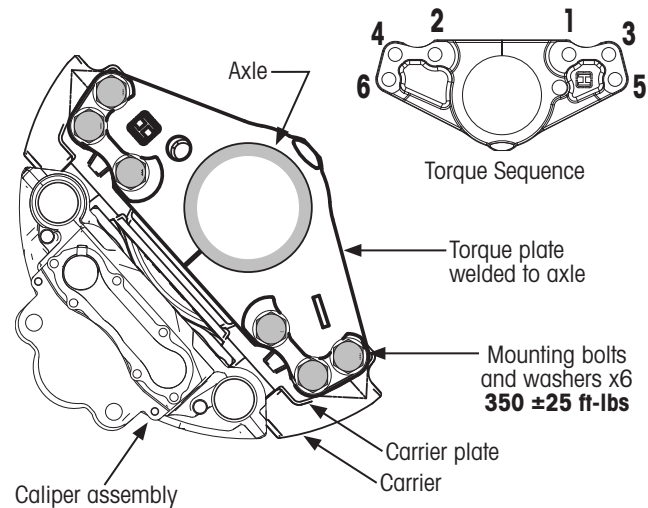
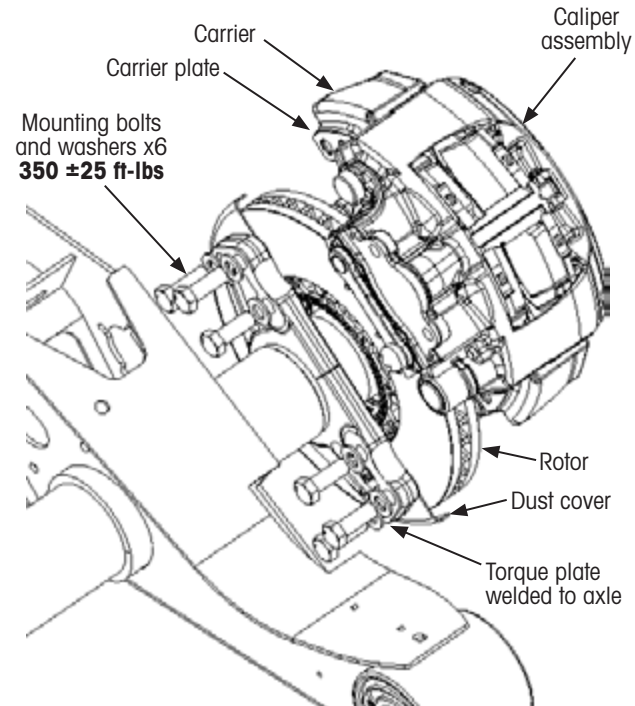

Figure 2: Torque Plate/caliper assembly
Figure 3: Installing ADB caliper (suspension shown upside down)
2. **Align and place caliper** over rotor and against torque plate as shown in Figure 2 and Figure 3.
5. Using 30 mm socket, **torque mounting bolts** in sequence shown in Figure 2.
IMPORTANT: Turning bolts other than the ones **shaded** and numbered sequence in Figure 2 will alter brake performance and must be avoided. Refer to Vendor Components Literature for ADB service requirements.